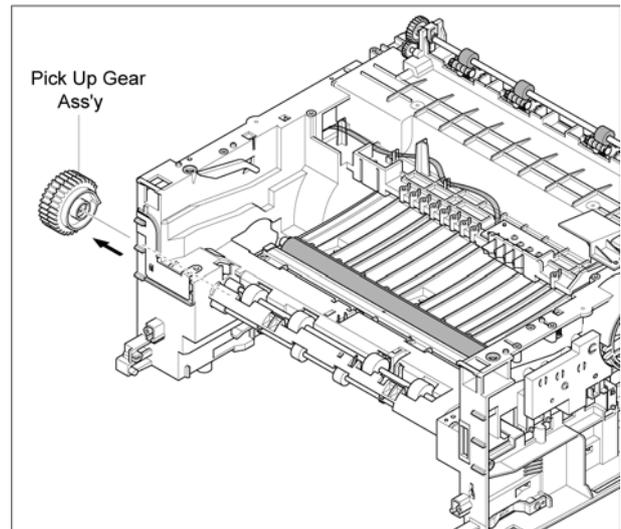

Figure 1
2. Remove the Pickup Gear Assembly, Figure 1.